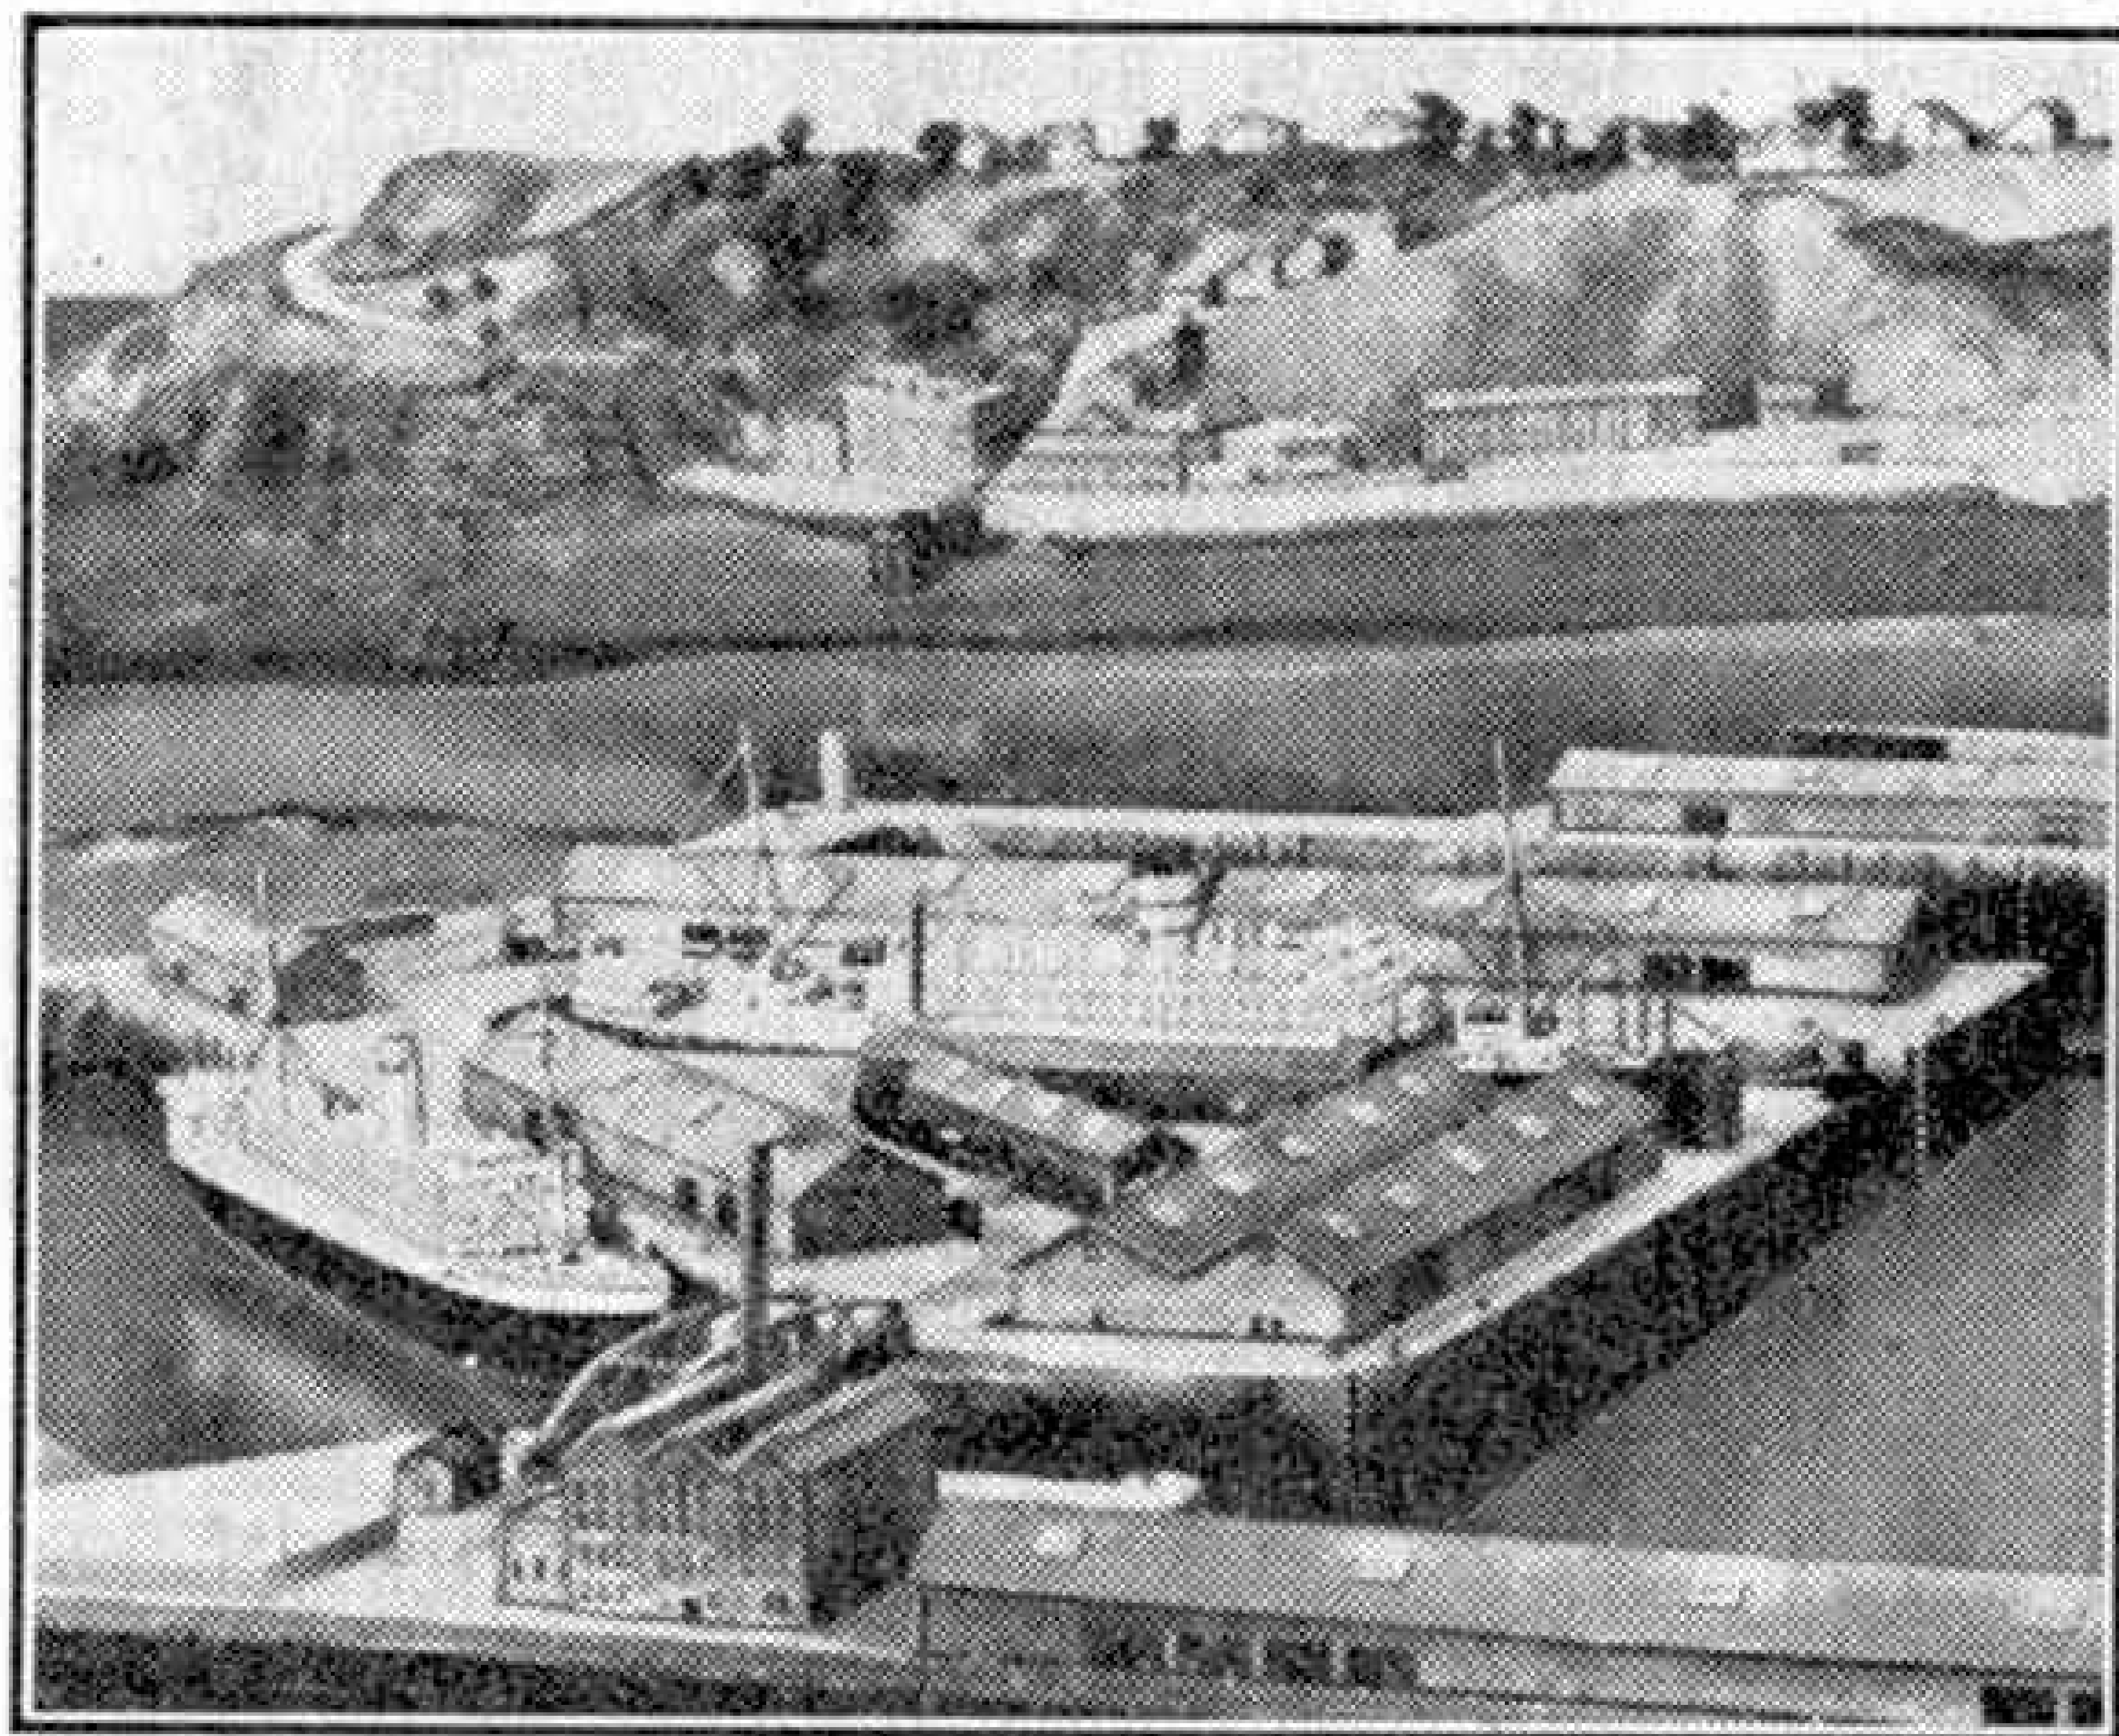
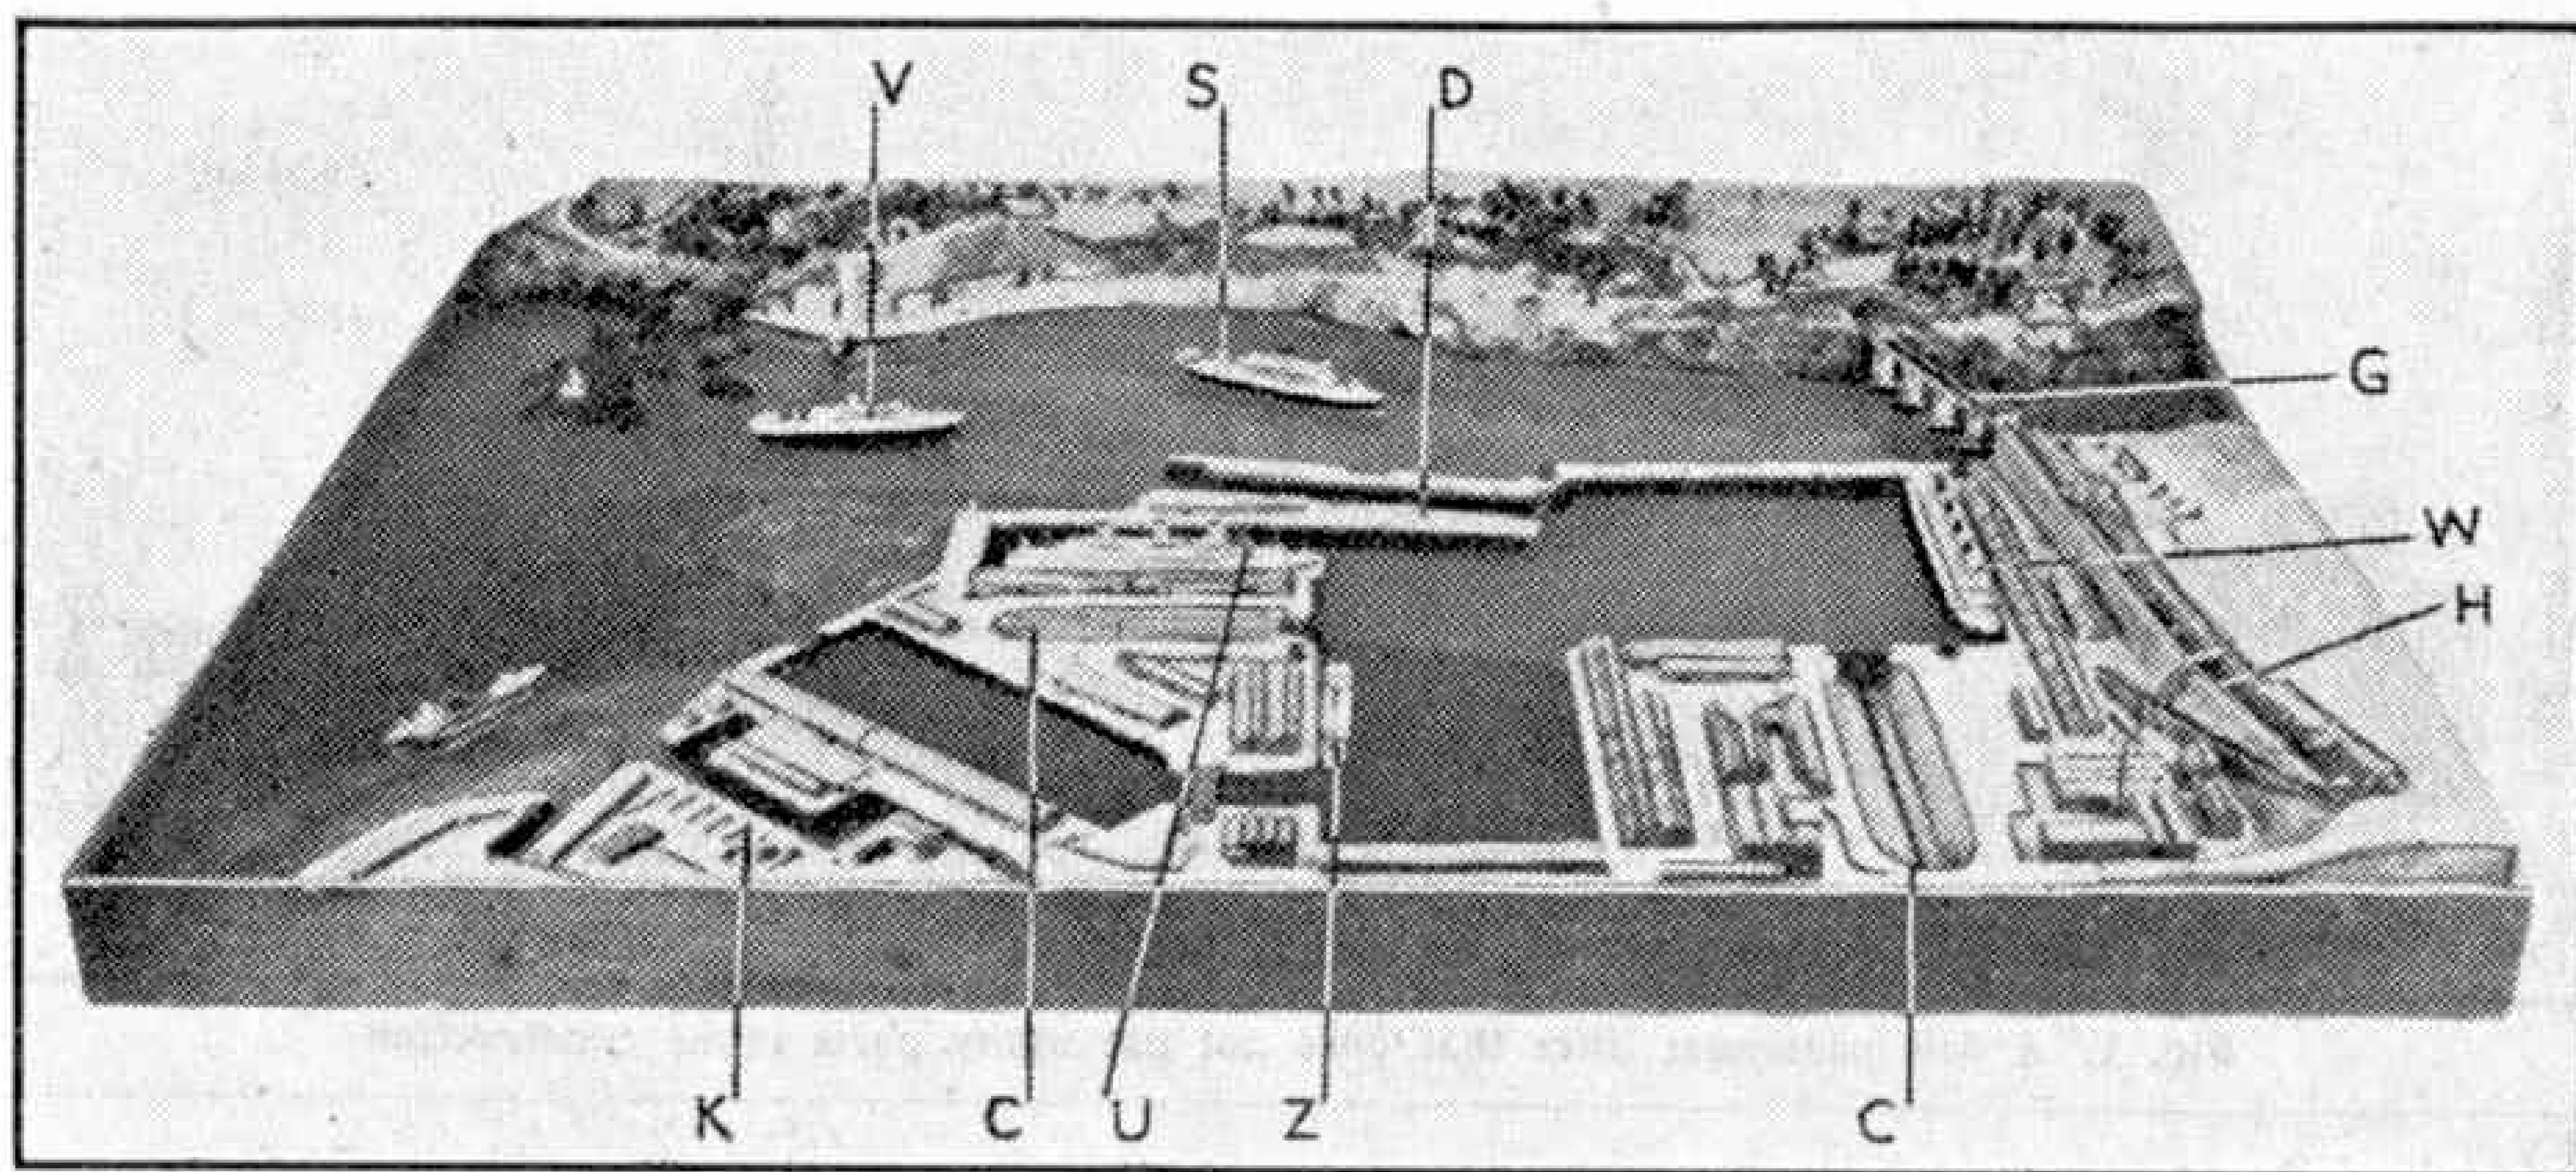

Fig. 1. A close-up of the dock area showing the "Carinthia" in dry dock and "Orduna" at a wharf.
Fig. 3. The complete scale model dock system that is described in the accompanying article. It was designed and built by Mr. J. Cowley, Liverpool.
and tidal docks, wharves, dockside railway and all the accompanying equipment, the whole being set against a most realistic and completely modelled landscape. The river and docks can be flooded with water. The model, which is shown complete in Fig. 3, is the work of Mr. J. Cowley, Liverpool, and it represents several years spare time work.
In addition to the dock system Mr. Cowley has made a number of fully detailed vessels of all kinds, liners, cargo ships, oil tankers, dredgers and lightships. Only a few of these exquisite models are seen in the illustrations. These are the "Orduna," shown at V Fig. 3, "Carinthia" (S), "Empress of Britain" (U), "Olympic" (W), and the "Idomeneus" (Z). A dredger lies in the estuary. In Fig. 1 the "Orduna" is seen at a wharf and the "Carinthia" has moved to dry dock.